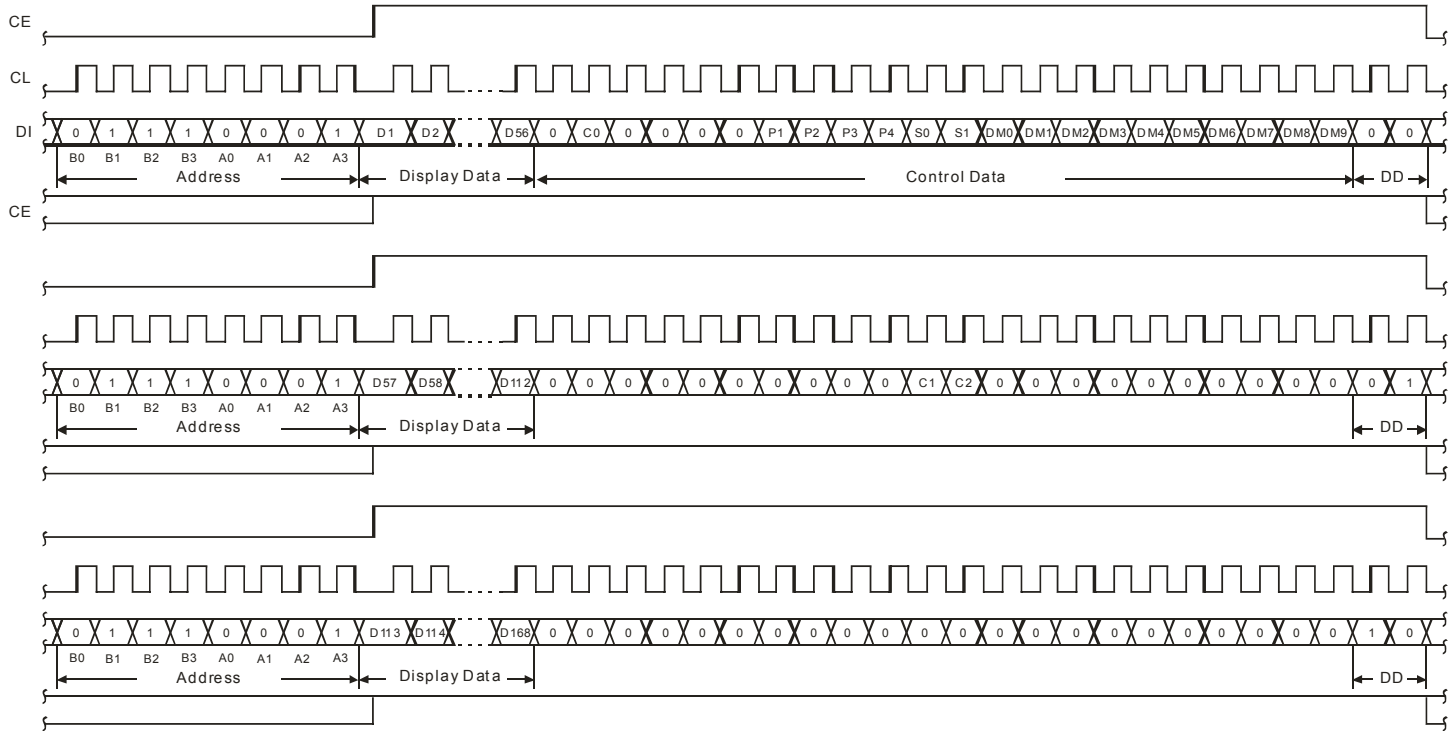

Figure 1
2. Address : Applications must send the value (8E_H) as shown in figure 1 & 2